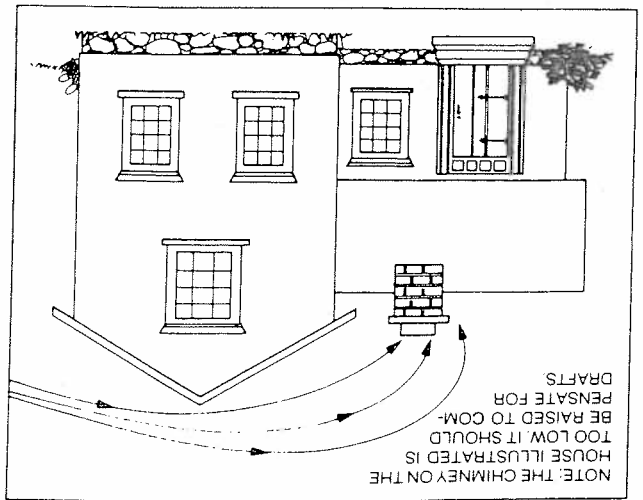

FIG. 4
4. Trees or Other Topographical Barriers — Impeding the chimney's operation or causing a down draft condition to exist. This can also be caused by adjacent buildings or the roof of the same structure where the chimney is not high enough (Fig. 4)